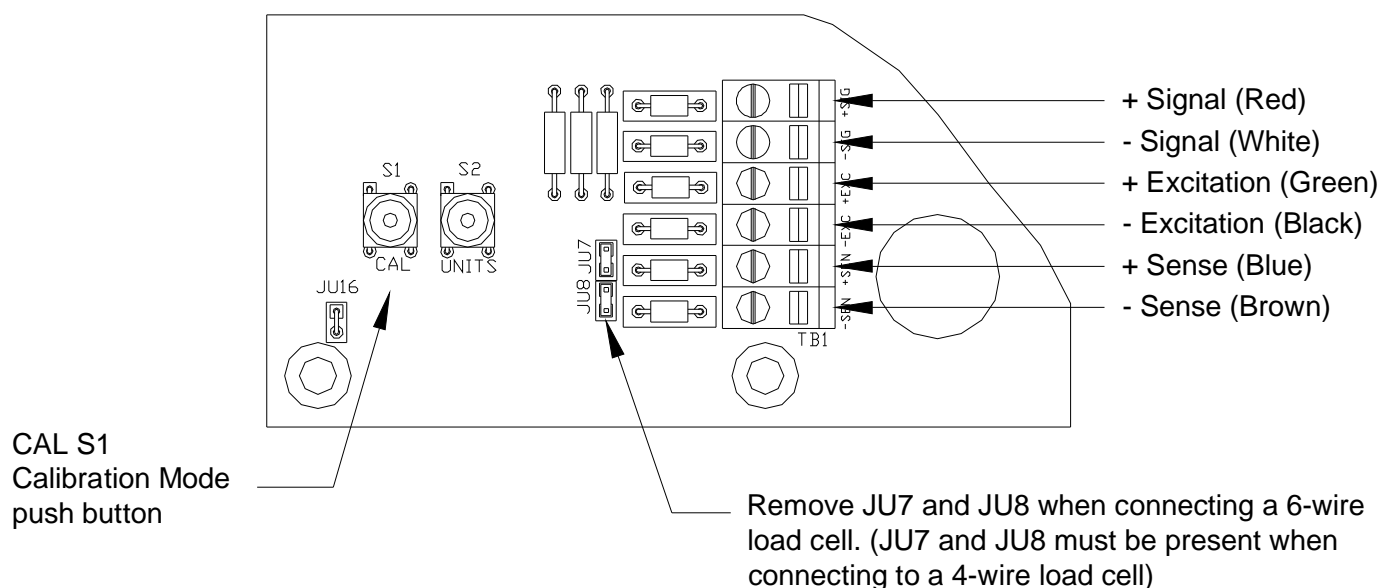
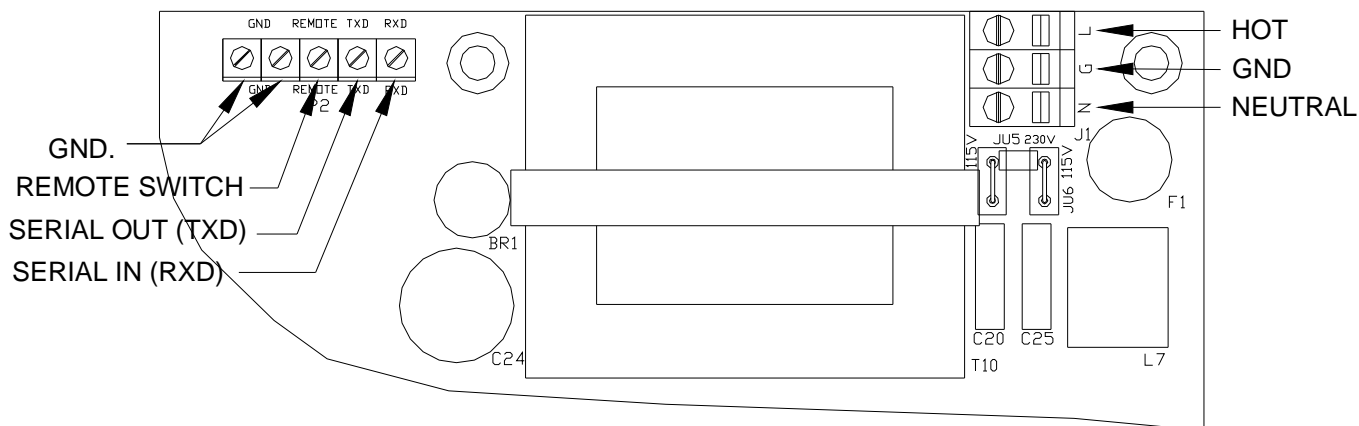

Fig. 6: Load Cell connections
Fig. 7: Serial, Remote SWITCH and power Connections
Load cell connections are made through a terminal block "TB1" located at the bottom center of the main board (see Fig. 6). The power cord connects to a connector "J1" adjacent to the transformer (see Fig. 7). These connections are accessible by removing the rear cover screws and laying the rear panel and front of scale on the work surface.
The Remote Switch and Serial Communications terminal is found on the top of the main board next to the transformer. These option connections are accessed by removing the rear cover. Connections are made by inserting each lead of the option cable into P2 terminal block (see Fig. 7). Like the load cell cable and power cord, the option cables are passed through watertight fittings mounted on the back of the indicator.
- 3) The **CAL switch S1** is a momentary push button located in the lower left corner of main PC. Board (see Fig. 6). To access the calibration switch remove the meter's back cover.
NOTE: If "Error" appears on the display, the calibration span is in a negative range. Check polarity of load cell connection (see Fig. 6) and repeat Calibration.
Scale must be in Legal for Trade Switch mode ("0P" = "445"). Apply power to the Scale. Then momentarily press the **CAL switch** S1 located in the lower left corner of main PC. Board (see Fig. 6). The calibration switch can be accessed by removing the meter's back cover. **Note:** Parameter and Calibration audit counters will be hidden when set in this mode. **Warning:** do not press CAL switch while powering up scale, this will cause the scale to reset all parameter settings.